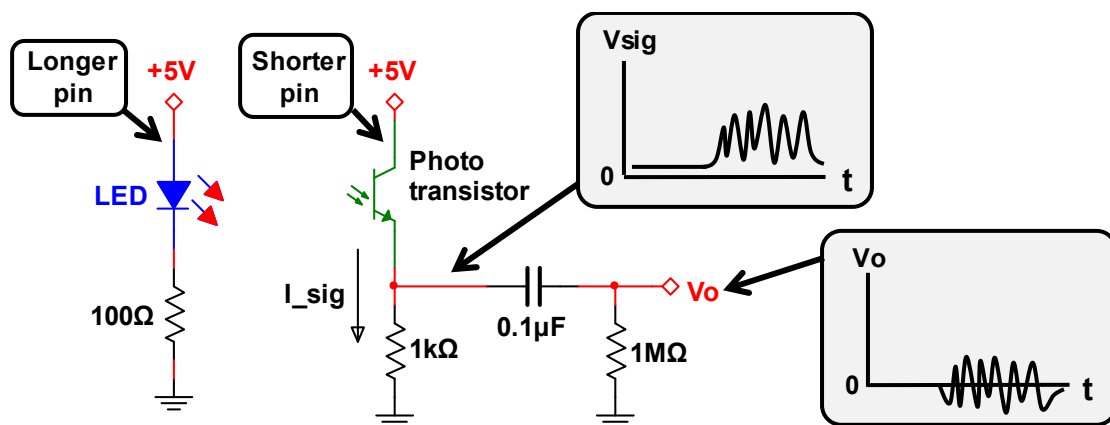

Fig. 3: LED and phototransistor circuit. +5V is connected to the LONGER pin of the LED and the SHORTER pin of the phototransistor!
- Attach the scope probe to observe the V_{sig} of the phototransistor (see Fig. 3).
- As you wave your hand just above the LED, the scope trace should respond to your hand waving. The V_{sig} waveform should be purely positive (see Fig. 3).
- Move the scope probe to observe the output V_o of the high-pass filter (see Fig. 3).
- As you wave your hand just above the LED, the scope trace should respond to your hand waving (see Fig. 3). The V_o waveform should be both positive and negative (see Fig. 3).